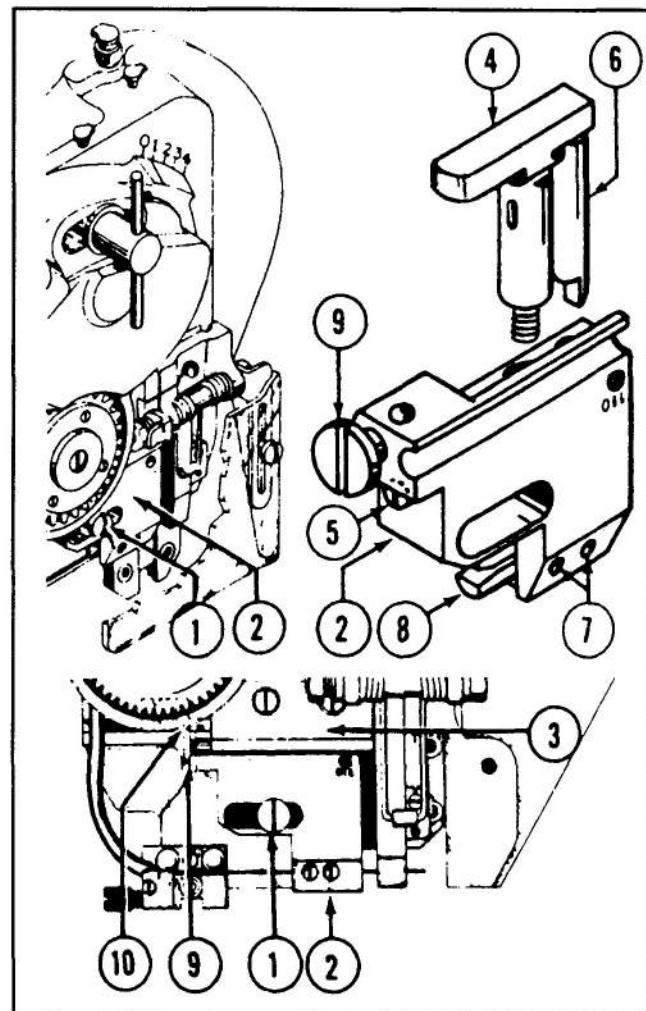

Figure 18 — Removing and Replacing Removable Cutter
d. **MOVABLE CUTTER** (See Fig. 18)—The cutting edge of the movable cutter should be periodically checked for sharpness. A dull cutter can be resharpened but eventually must be replaced.